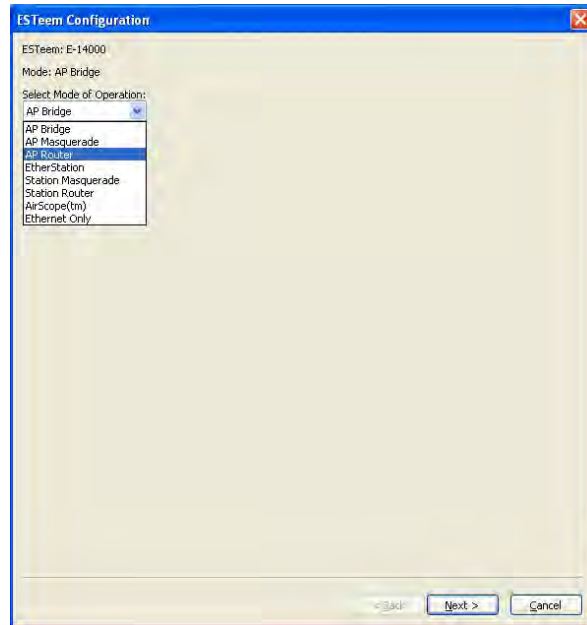

Figure 26: Mode of Operation Selection
7. Select Station Router for E-14001 and Station Masquerade for E-14002 in the Mode of Operation (Figure 26). Press the Next button at the bottom of the window to continue.